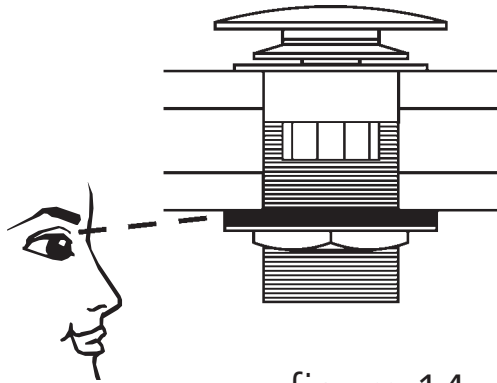

figure 14
20. Fill the tub with water to the overflow and then drain the tub while inspecting the waste connections below the floor for leaks. Access from below will be necessary for this step (figure 14).